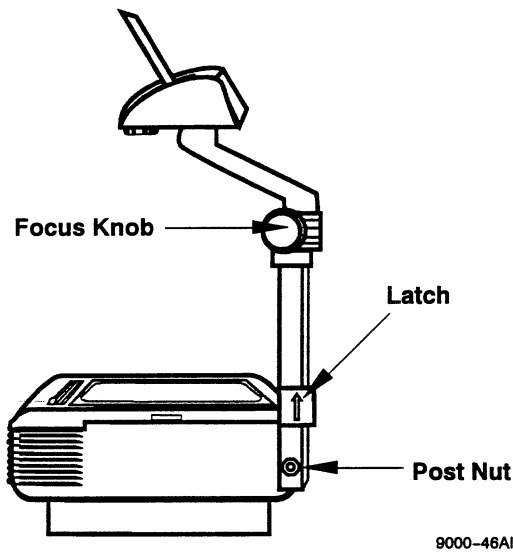

Figure 5-31. Post Lock Assembly
1. Remove post nut. Figure 5-31.
1. Remove post assembly. Figure 5-31.
2. To replace any other focus assembly parts, rest the overhead projector on its back. Figure 5-31.